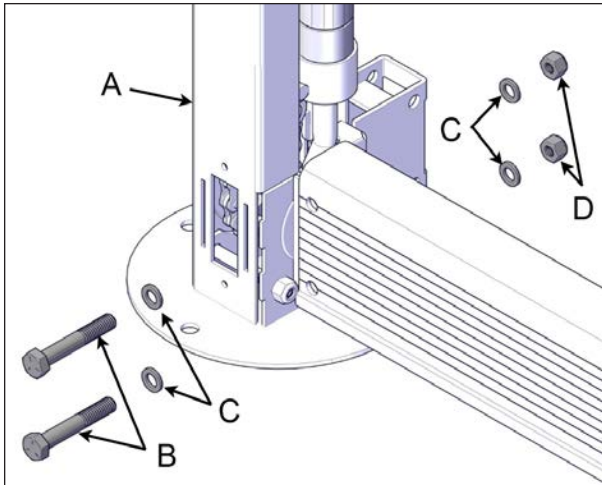

FIGURE 41: LONG U-FRAME INSTALLATION
10. Install the long aluminum U-frame over the left drive shaft and make sure it lines up with motor-side and non-motor-side jack assemblies. Fasten in place using two hexagonal 5/16"-18 x 2" screws, two 5/16"-18 nylon-insert lock nuts and four 5/16" plastic washers (2 by side), with the 1/2" (13 mm) socket wrench and spanner as tools see Figure 41.
The drive shaft may fall off during operation, and reassembling can be done faster when the bolts have not been fully tightened see Figure 41.